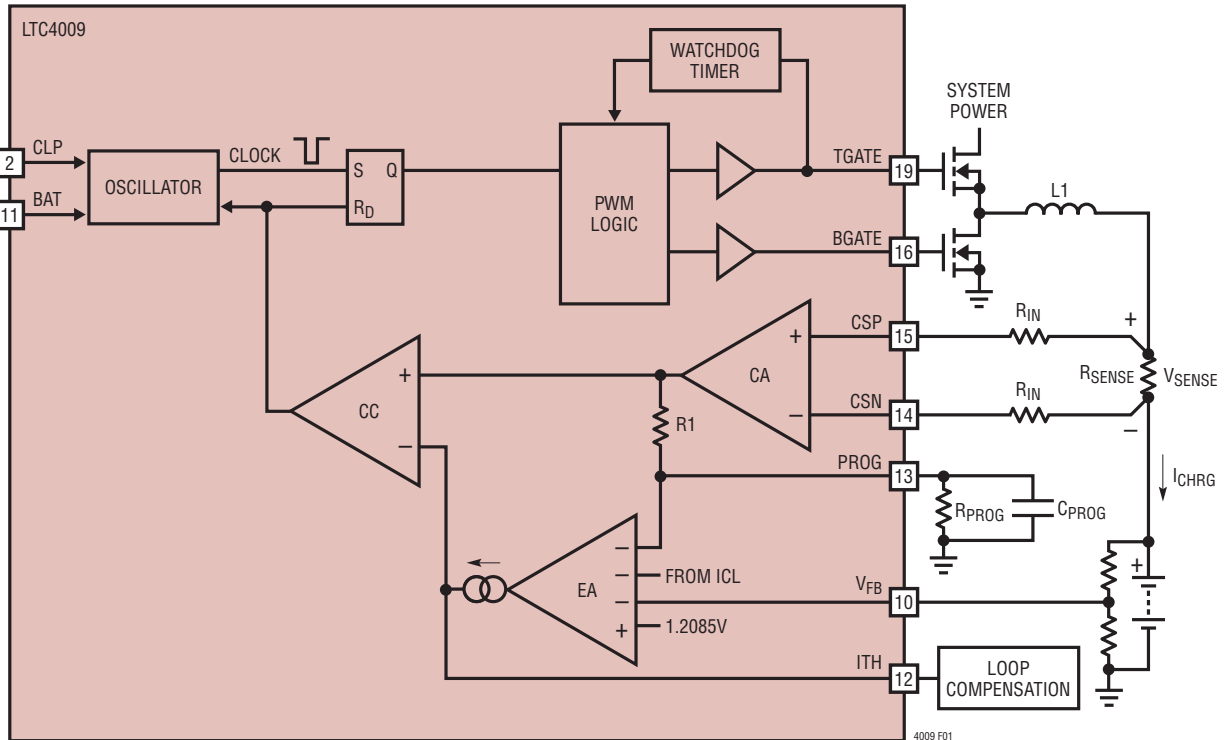

Figure 1. PWM Circuit Diagram
**CSN (Pin 14):** Charge Current Sense Negative Input. Place an external input resistor (RIN, Figure 1) between this pin and the negative side of the charge current sense resistor. Operating voltage ranges from (BAT – 50mV) to (BAT + 200mV).
**CSP (Pin 15):** Charge Current Sense Positive Input. Place an external input resistor (RIN, Figure 1) between this pin and the positive side of the charge current sense resistor. Operating voltage ranges from (BAT – 50mV) to (BAT + 200mV).
The LTC4009 is a synchronous step-down (buck) current mode PWM battery charger controller. The maximum charge current is programmed by the combination of a charge current sense resistor ( $R_{SENSE}$ ), matched input resistors ( $R_{IN}$ , Figure 1), and a programming resistor ( $R_{PROG}$ ) between the PROG and GND pins. Battery voltage is programmed either with an external resistor divider between FBDIV and GND (LTC4009) or two digital battery voltage select pins (LTC4009-1/LTC4009-2). In addition, the PROG pin provides a linearized voltage output of the actual charge current.
When the LTC4009 is charging, the voltage on the PROG pin varies in direct proportion to the charge current. Referring to Figure 1, the nominal PROG voltage is given by
The LTC4009 uses a synchronous step-down architecture to produce high operating efficiency. The nominal operating frequency of 550kHz allows use of small filter components. The following conceptual discussion of basic PWM operation references Figure 1.